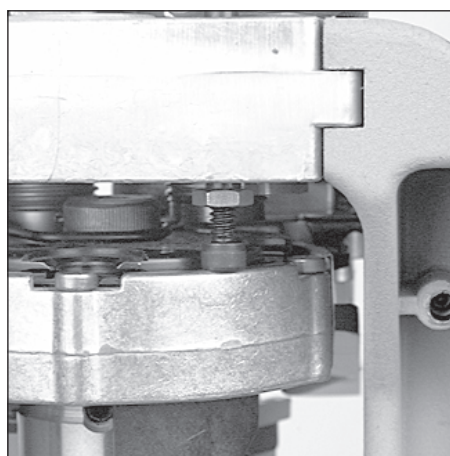

FIG 110
6. **FIG 110** Screw the 10-24 screw and nut fully into the rod. Raise the platform. Unscrew the 10-24 screw until it contacts the edge of the platform **FIG 110**. Lower the platform partway and unscrew the screw (counter clockwise) until raising the platform causes the